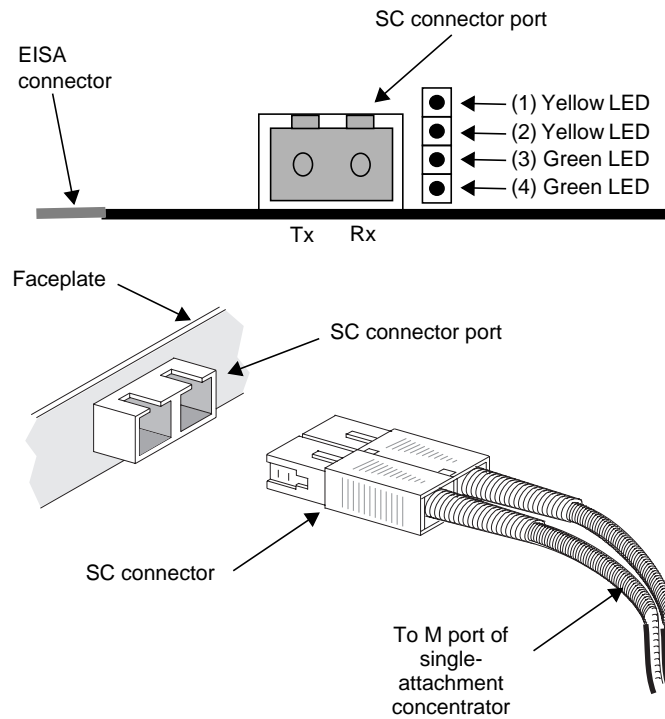

Figure 2-4. SAS SC Fiber Connection
- For SC connections, skip to Figure 2-4 on page 16.